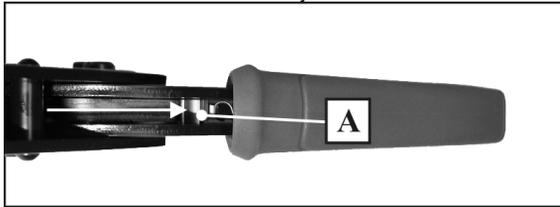

Fig.4.
- ❑ Using small screwdriver or similar tool, push the ratchet relief (A), located inside the moving handle, ( Fig. 4.) in direction as shown to unblock the tool, and remove obstruction before continuing with the work.